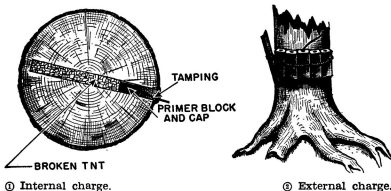

FIGURE 105.—How to blow round timber.
d. Timber.—External charges for cutting trees, round timbers, etc., are placed around one side of the object (fig. 105).